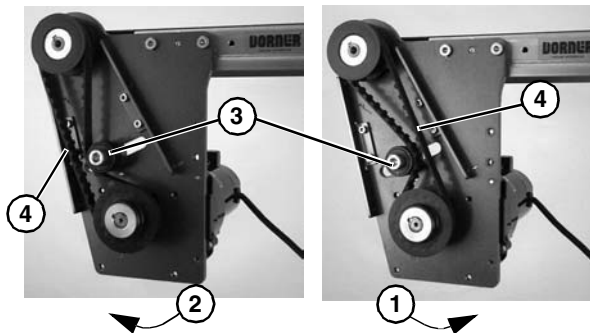

Figure 19
3. Depending on direction of conveyor belt travel (1 or 2 of Figure 19), position timing belt tensioner (Figure 19, item 3) as shown. Tension timing belt to obtain 1/8" (3 mm) deflection for 1 lb (456 grams) of force at timing belt mid-point (Figure 19, item 4). Tighten tensioner screw to 106 in-lb (12 Nm).
5. Depending on direction of conveyor belt travel (**Figure 19, item 1** or 2), position timing belt tensioner (**Figure 19, item 3**) as shown. Tension timing belt to obtain 1/8" (3 mm) deflection for 1 lb (456 grams) of force at timing belt mid-point (**Figure 19, item 4**). Tighten tensioner screw to 106 in-lb (12 Nm).